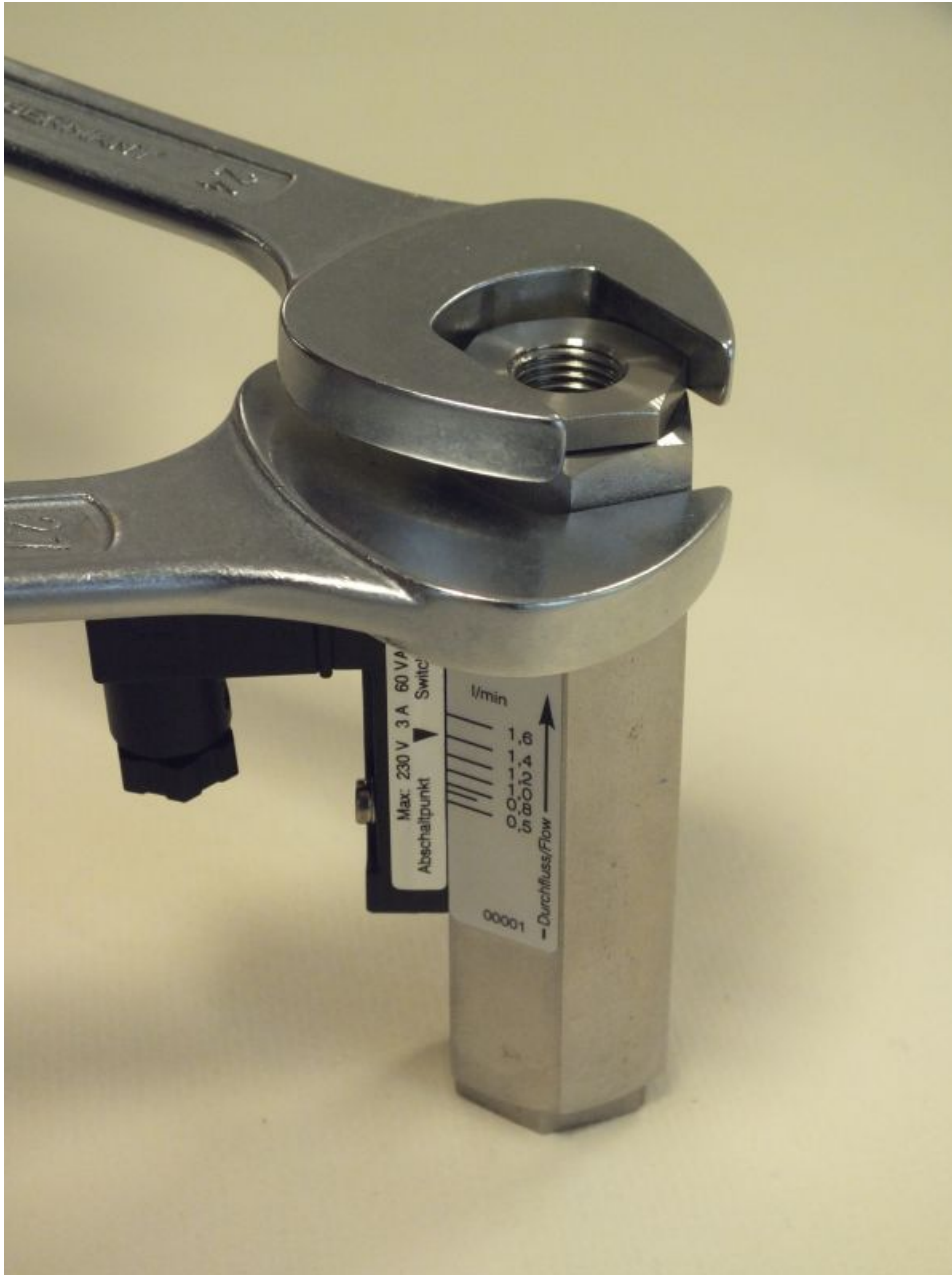

Fig. 35: Loosen process connection (outlet)
1. Loosen the process connection (outlet) (Fig. 35) using the proper sized fixed spanner wrench. Hold the device body in place using a proper sized spanner wrench.